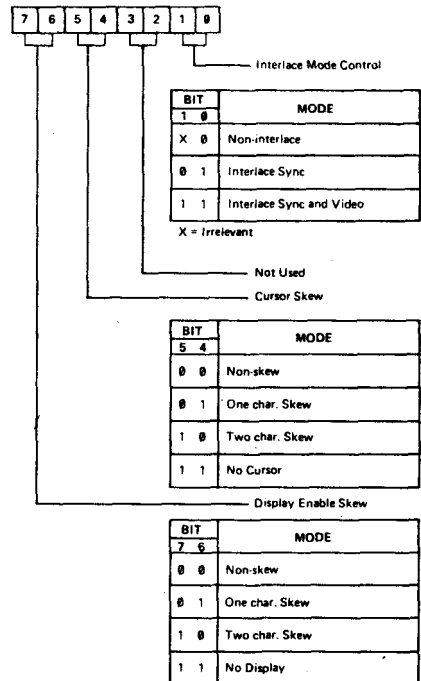

Figure 6. Interlace and Skew Register (R8) Bit Significance
- ADDRESS (AR): Contains the vector number (hex) of the specified internal Control Register in bits 0-4. Accessed by a Write operation when A0 = '0'.
- HORIZ. DISPLAYED (RI): Contains the total number of char. to be displayed in a row, i.e. 80.
- INTERLACE & SKEW (R8): Selects the VDU Controller operating mode, refer to Figure 6.